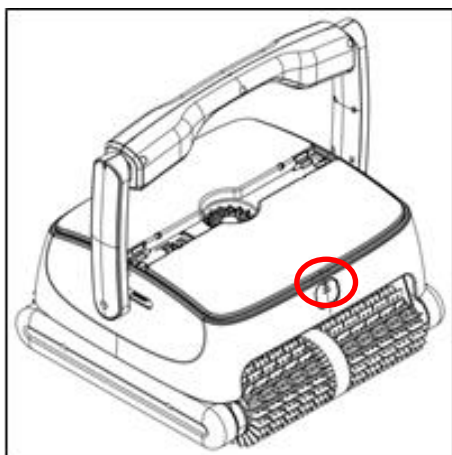

Figure 1
- Press the opening button (see Figure 1)